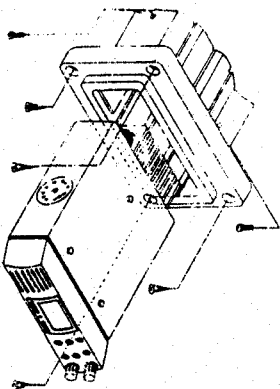

FIGURE 7. INSTALLATION WITH CMB11 FLUSH MOUNT BRACKET
- Refer to Figure 7 for the following procedure.